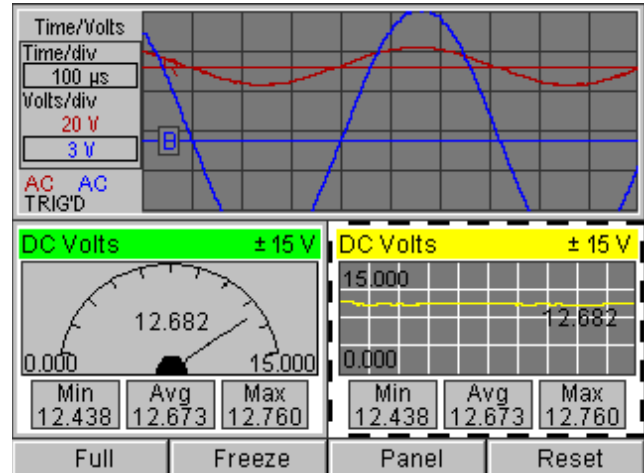

Figure 7.15: Lab Scope Screen, DMM On - All Panels Displayed
- 8 With the DMM panel selected, refer to the steps in DMM Setup and Display on page 36 and set up the DMM panel(s). After all the panels are set up, the screen looks similar to Figure 7.15.